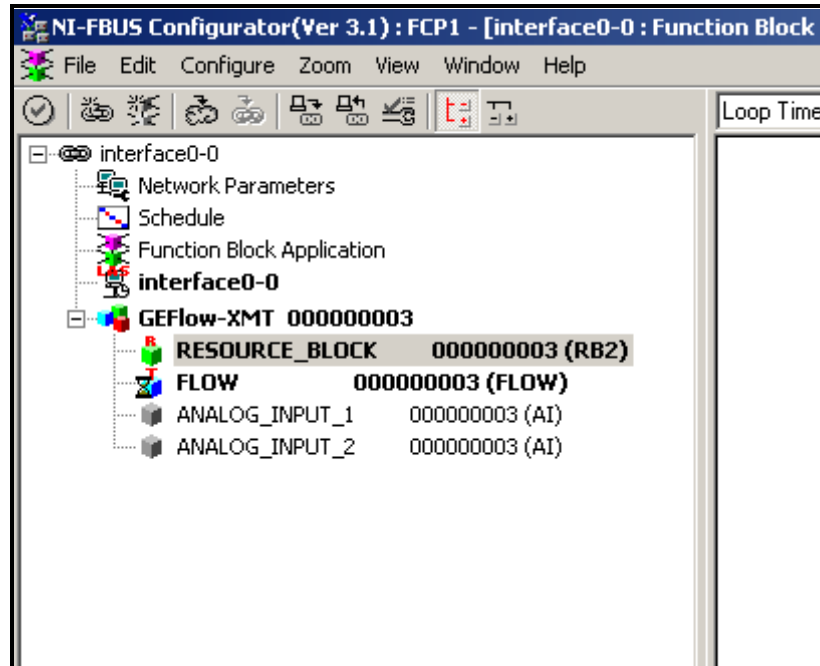

Figure 39: Configuration Utility Setup Example
Figure 39 shows the Configuration Utility with a flowmeter on the network (Panametrics Flow-XMT).
1. Double click on the AI block for which you wish to set the units (ANALOG_INPUT_1 or ANALOG_INPUT_2 in the tree under GEFLOW-XMT; see Figure 39 on page 108).
1. Double click on the FLOW transducer block (in the tree under GEFLOW-XMT; see Figure 39 on page 108).